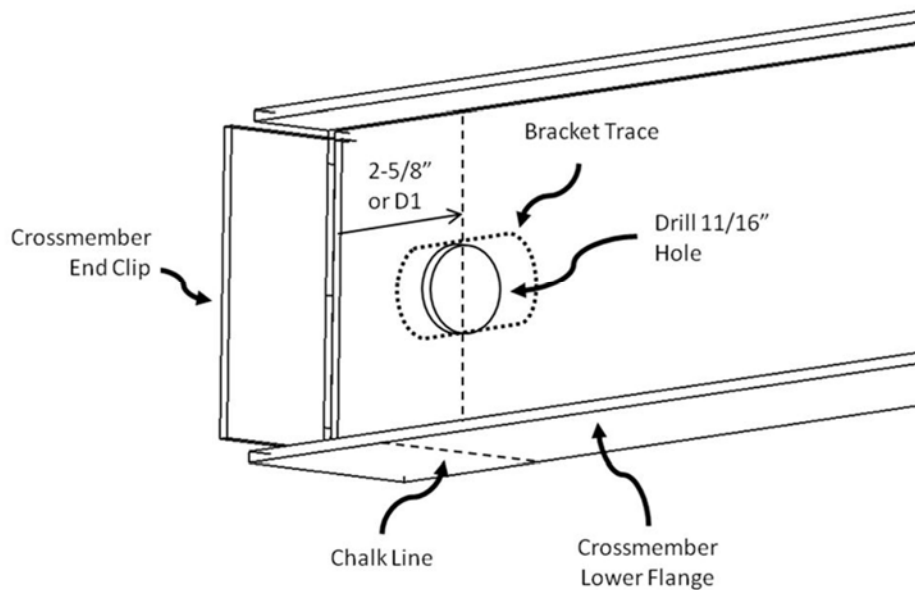

Figure 7 – Location to Drill 11/16" hole
Once the seven cross members are identified, the hole locations at the end of each of the seven (7) cross members must be marked. Typical cross member length is 101-3/8" measured end-clip to end-clip on their inside face. In this case the center of the hole should be inset 2-5/8" horizontally from the cross member end-clip. Double check that your trailer conforms to this standard. Visibly mark this location on the bottom flange of each end of cross members 1 and 7. String and pop the chalk line from the mark on cross member's 1 and 7 on each side of the trailer. See Fig. 7 and Fig. 9